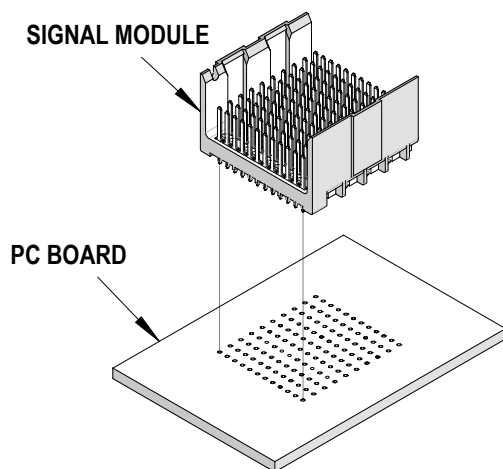

Figure 2-5
1. Carefully pre-insert, by hand, the backplane signal module(s) into the printed circuit board hole pattern. Make sure the connector(s) are oriented properly by confirming the location of the #1 circuit notch with respect to the printed circuit board layout. See Figure 2-5.